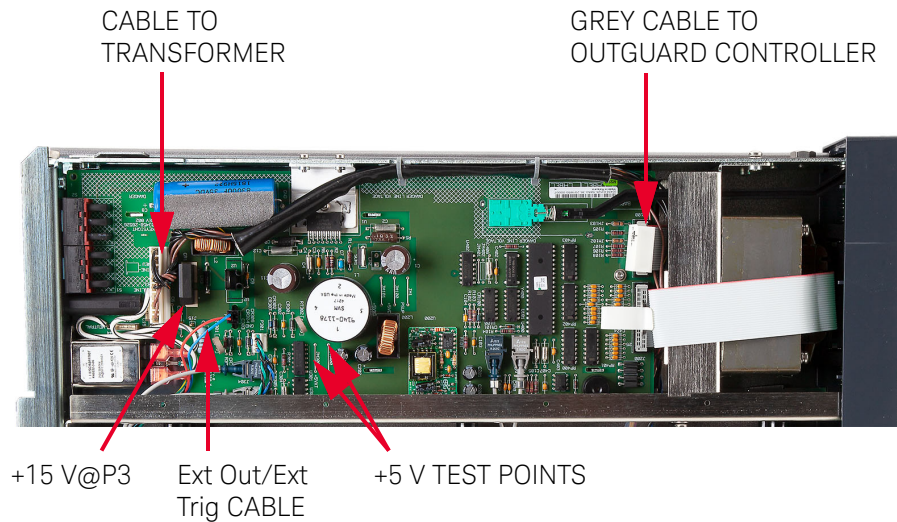

Figure 4-2 Outguard power supply
- 2 Refer to **Figure 4-2** to locate the Ext Out/Ext Trig cable plugged in on the Outguard Power Supply (A6) assembly. Unplug the cable from socket P301.
- 2 Refer to **Figure 4-2**. Unplug the 2-pin cable from socket P3. The cable is connected to the fan.
- 3 Turn the instrument on. Use a digital multimeter to measure for approximately +15 V at socket P3, as shown in **Figure 4-2**.
- b Refer to Figure 4-2 to locate the 8-pin cable that connects the Outguard Power Supply (A6) assembly to the power transformer. Unplug the cable at the power supply assembly.
- 2** Refer to Figure 4-2. With the test digital multimeter, check for +5 V (± 0.25 V) at the test points shown in the figure.
- 6** Refer to Figure 4-2. Unplug the gray 20 pin cable connected to the Outguard Controller (A5) assembly.